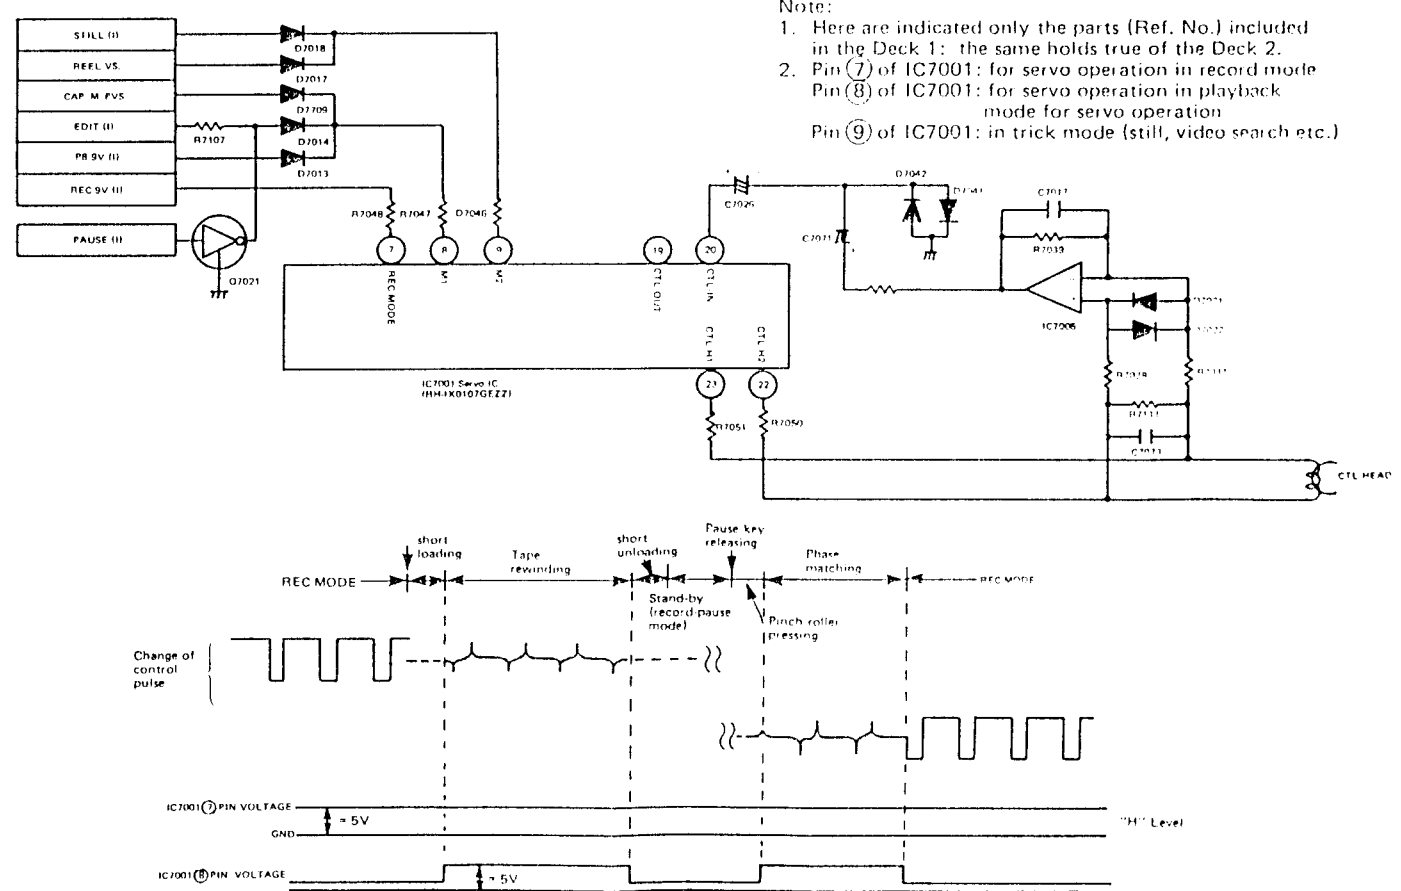

Figure 29. Editing Timing Circuit
Fig. 29 shows how the control pulse recorded on a tape varies with the time lapse during the editing operation. While the unit is in record mode, the control pulses recorded at the lower part of a tape. When the pause key is then pushed, High-level voltage is applied to pin (8) of IC7001 so that the unit gets in playback mode. Then the tape is rewound for about two seconds and the unit enters record-pause mode.